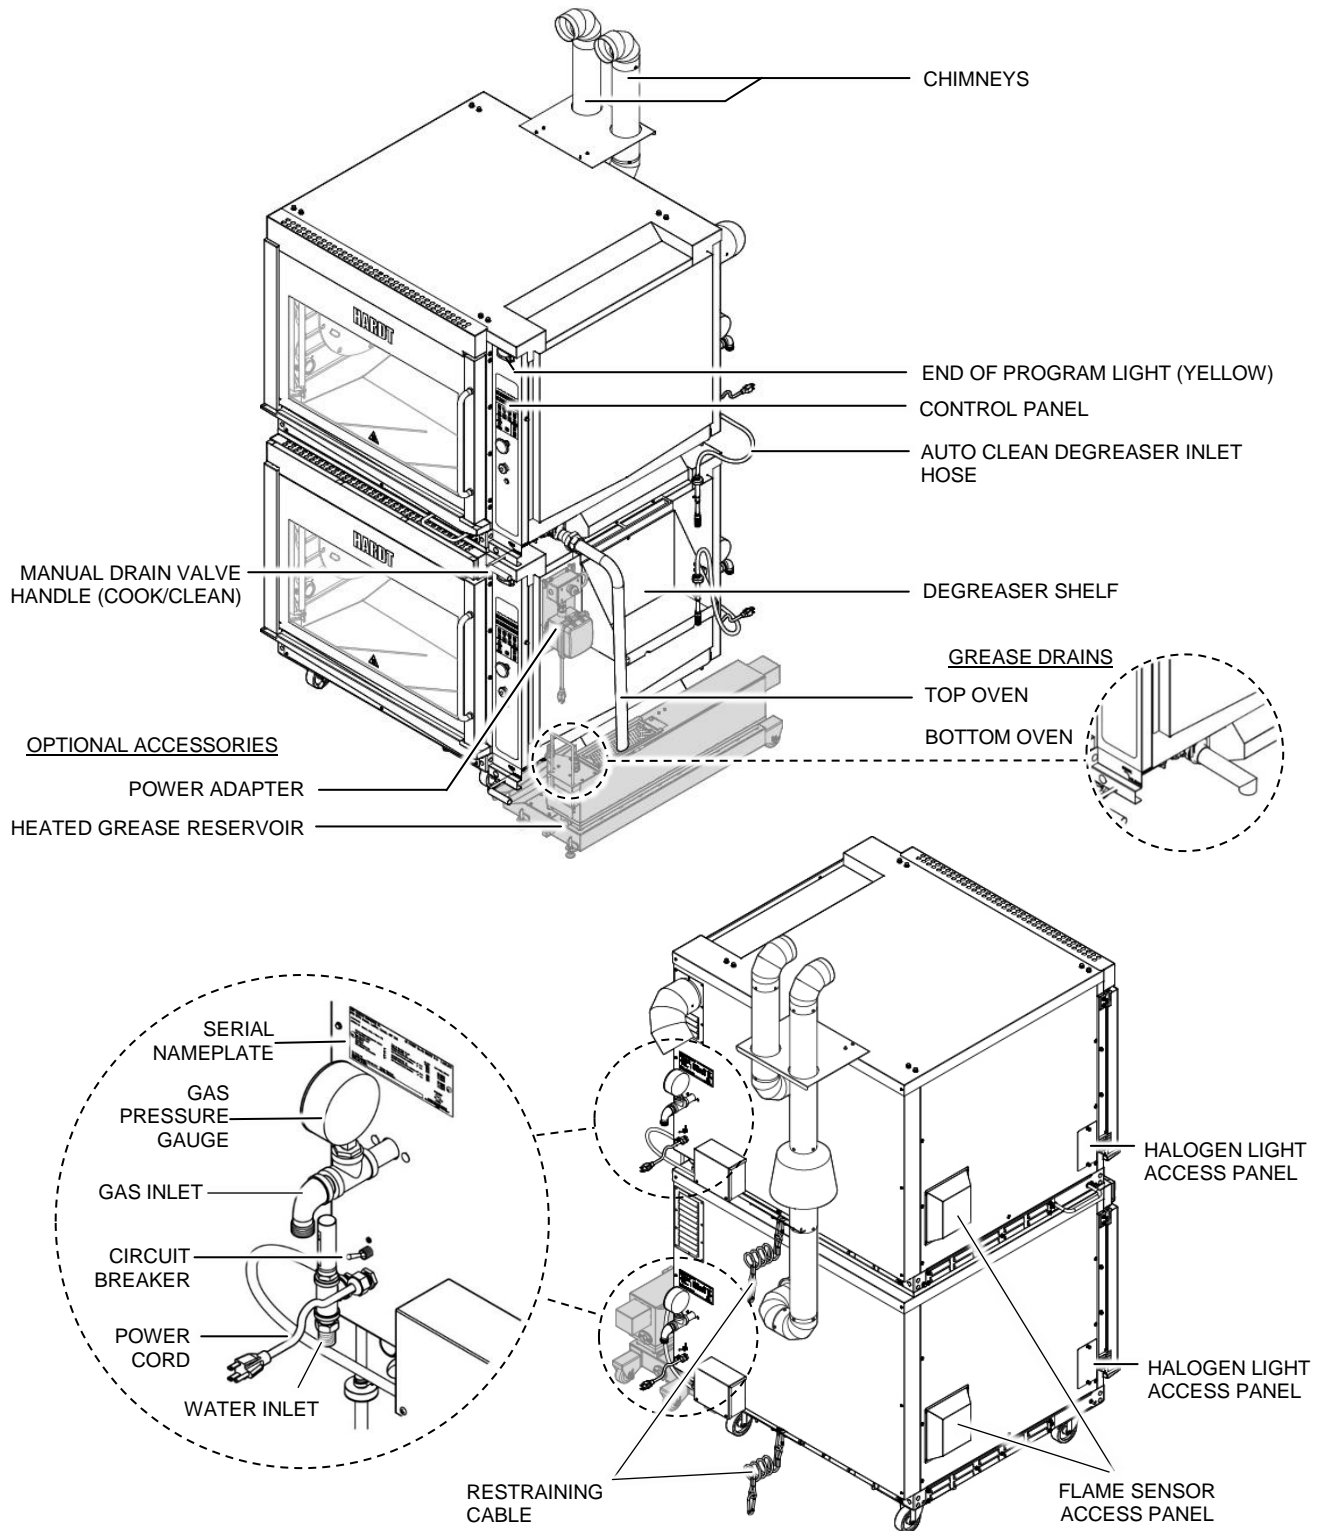

Figure 3-2
- At the end of a preheat cycle when the correct temperature is reached, a buzzer sounds for 5 seconds and the yellow end of program light (Figure 3-1, Figure 3-2) turns on.